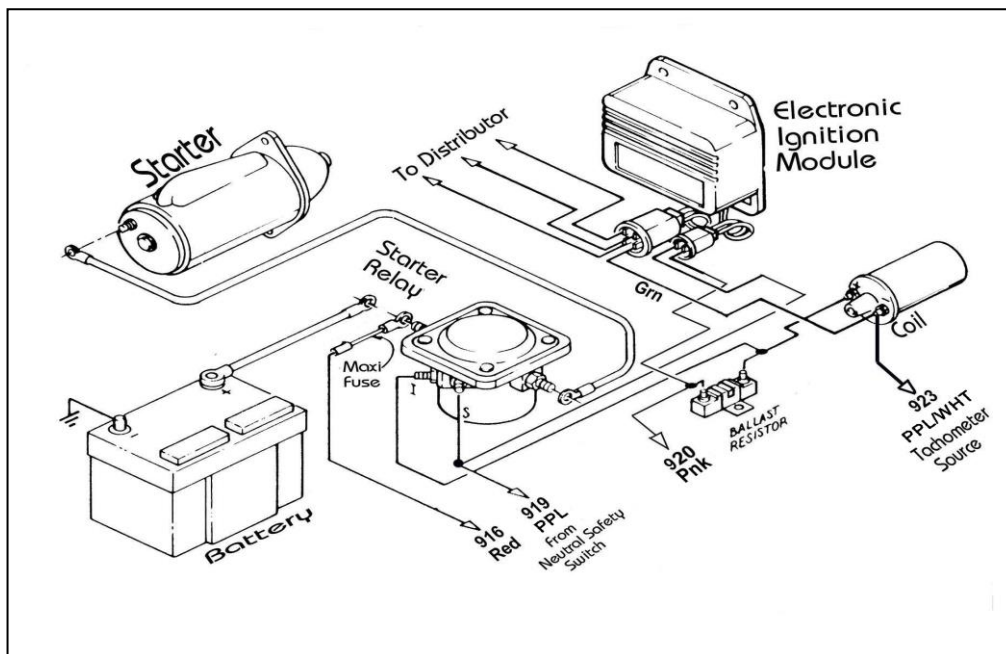

Figure 8.3 Motorcraft Electronic Ignition System
- 8.4.1** Connect the wires of the IGNITION SWITCH SECTION according to **Table 8-1**. **Figure 8-3** represents three (certainly not all) possible Ford ignition switch connector configurations and how they should be wired to the Painless steering column pigtail connector.